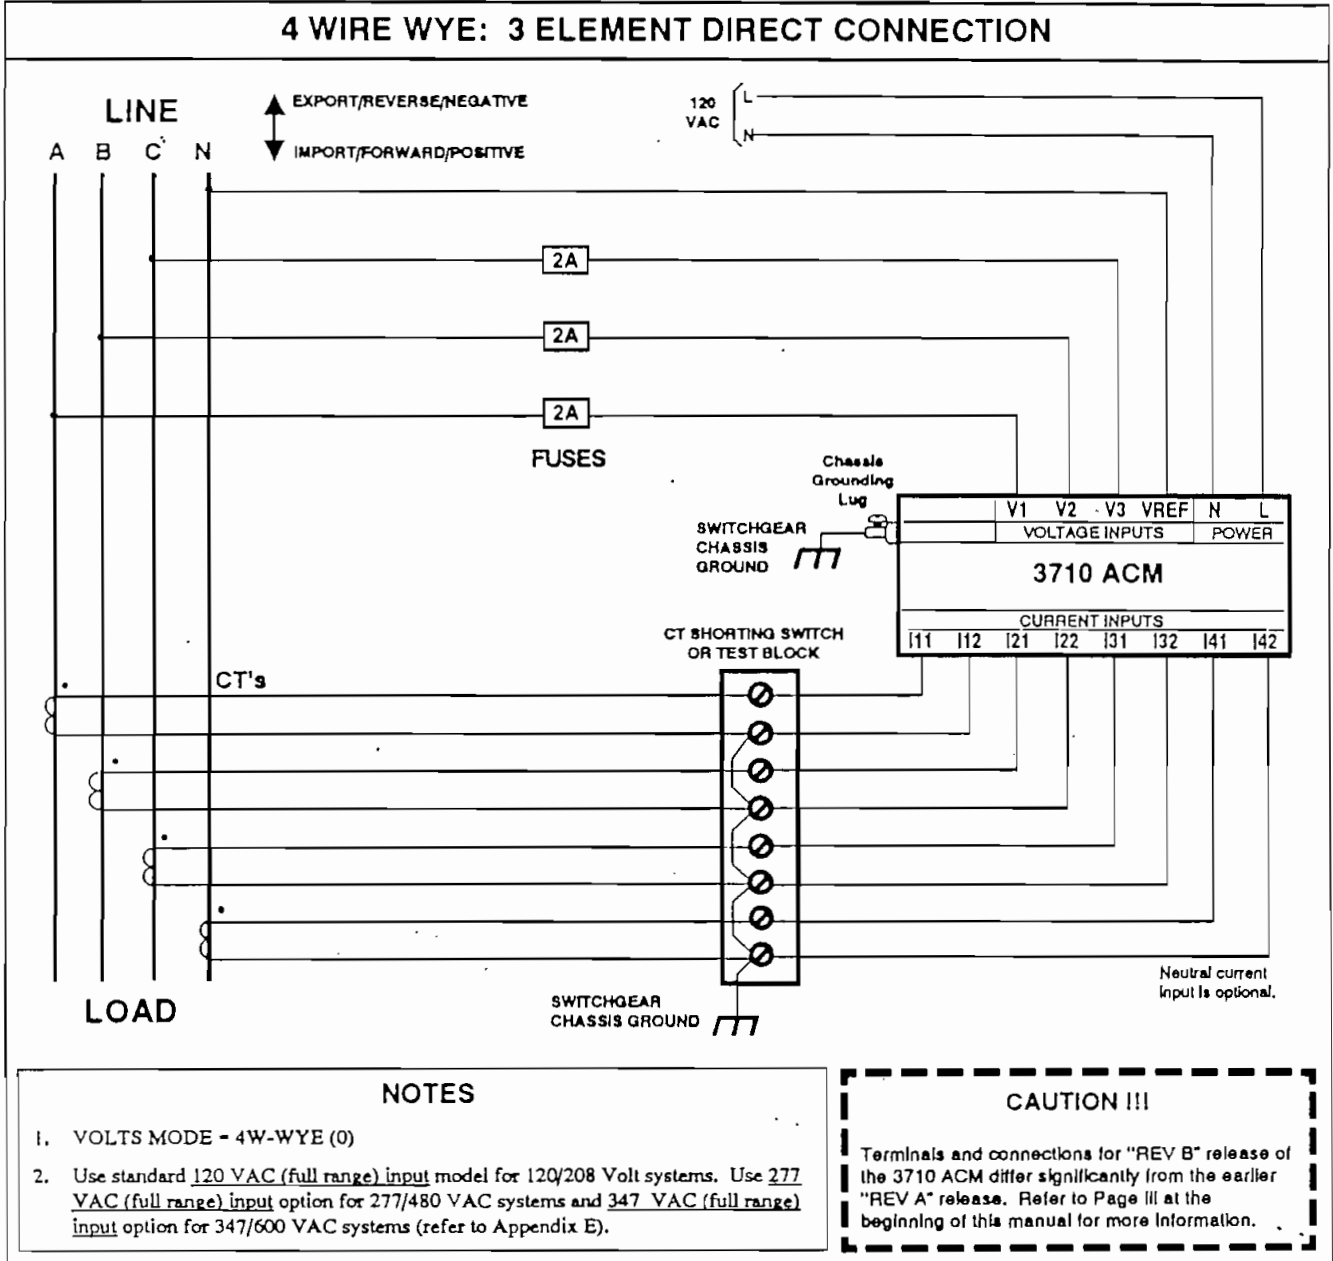

Figure 2.9.1 4 Wire WYE: 3 Element Direct Connection (For 120/208 to 347/600 Volt Systems)
Phasing and polarity of the AC current and voltage inputs and their relationship is critical to the correct operation of the unit. Figures 2.9.1 to 2.12.3 provide wiring diagrams to ensure correct installation.
The connection point for VREF is dependent on the system configuration. Each of the following configurations is illustrated in Figures 2.9.1 to 2.12.1:
Figures 2.9.1 to 2.9.4 provide wiring diagrams for 4 and 3 wire WYE system configurations.
The wiring diagram for these voltage ranges is shown in Figure 2.9.1 below. VOLTS MODE should be set to 4W-WYE (0).